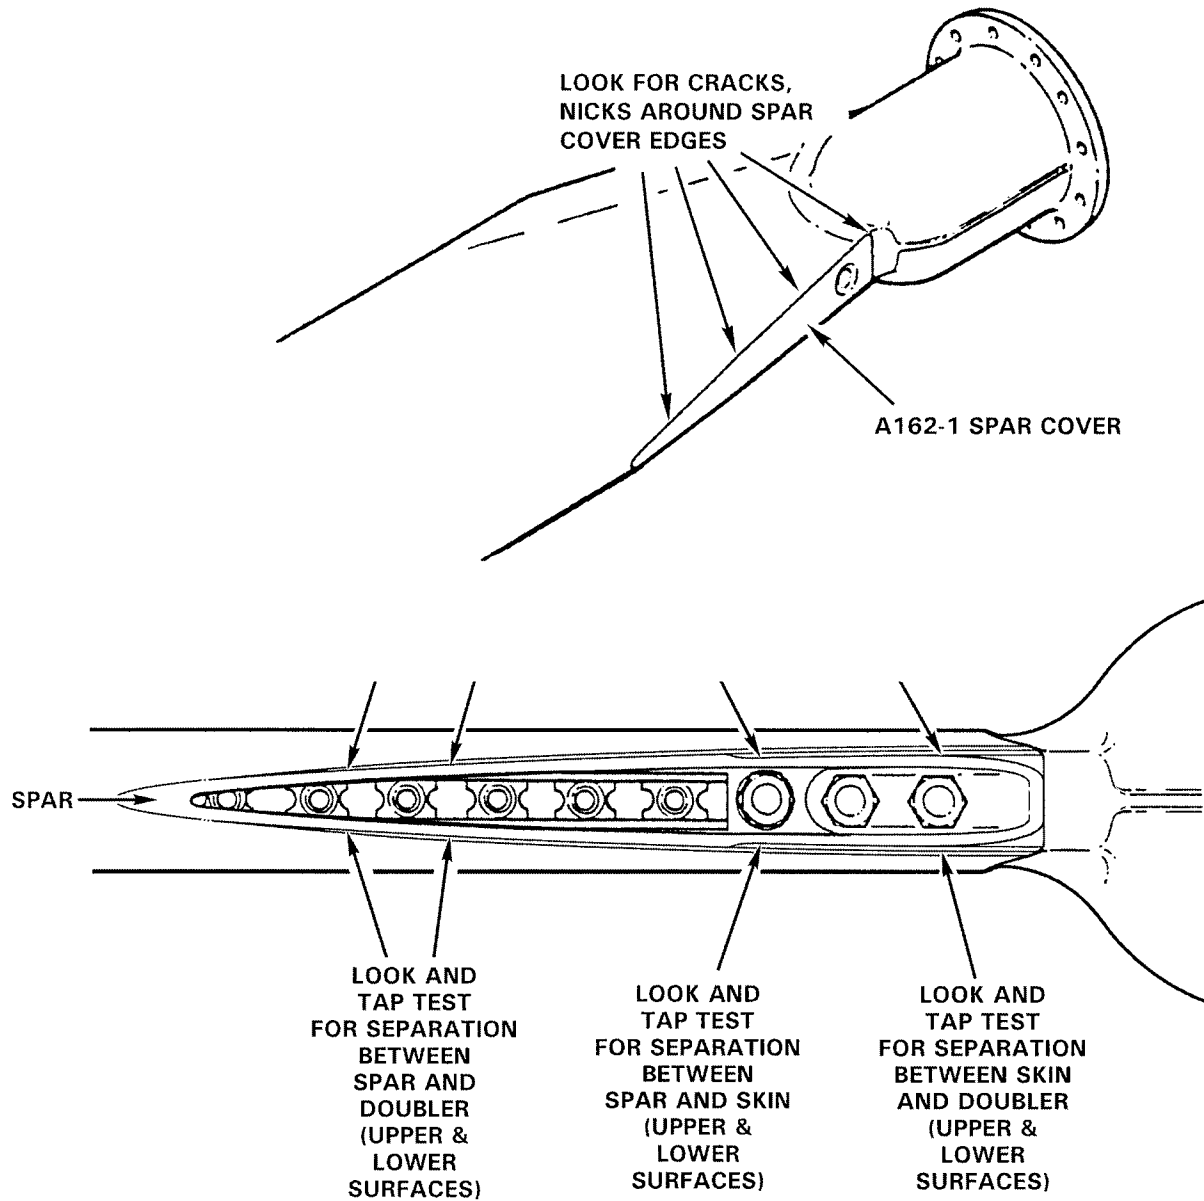

FIGURE 2-14 MAIN ROTOR BLADE SPAR COVER AREA DETAIL INSPECTION
1. See Figure 2-14. Remove spar cover. Use single-edge razor blade or knife to lift outboard tip of spar cover from leading edge, then peel cover off with pliers.
- c. Separation with a total length greater than 2.5 inches per side. See Figure 2-14.
- d. Any separation between the skin and spar in Area A. See Figure 2-14.